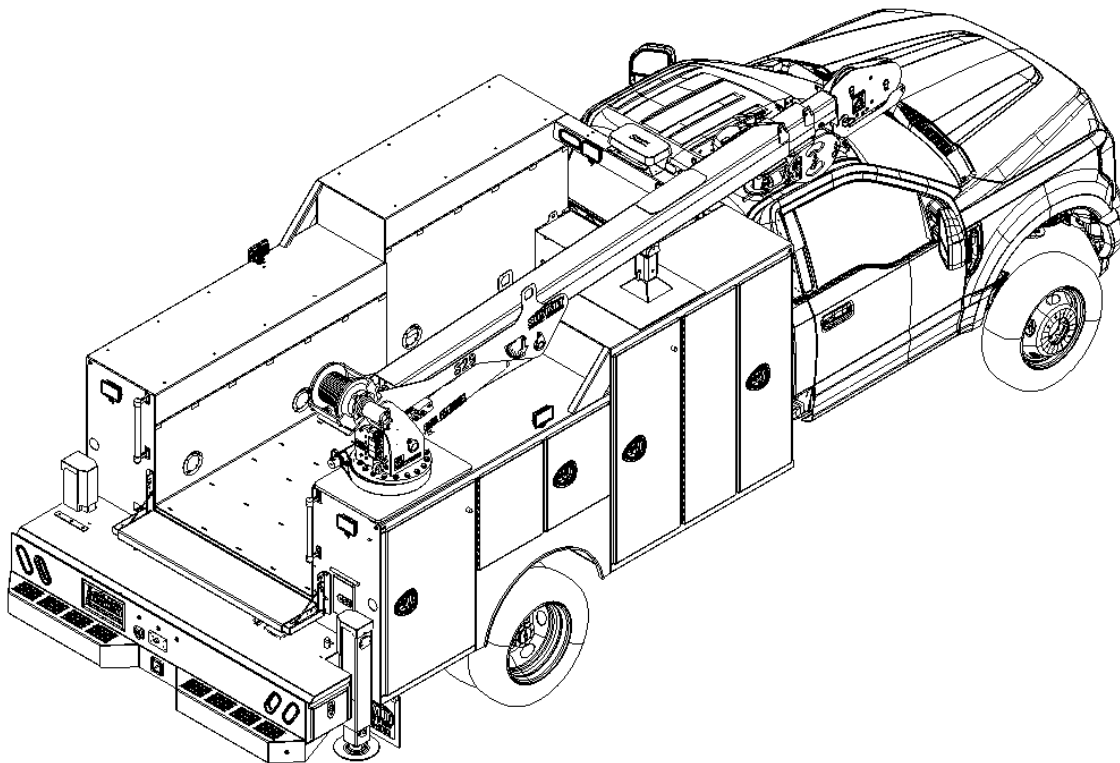

Figure 3-2.
Proper torque is critical for safe and effective performance of bolts and the crane as a whole. Figure 3-2 shows required installation torques for various sizes of non-plated Grade 5 and Grade 8 Fasteners; these bolts are black oxide finish only and are installed without lubricants. Figure 3-3 shows required adjustments to standard torque values for various bolt lubricants, coatings, and finishes. Refer to metric equivalent torque specification chart for metric fasteners.
U.S. BOLT TORQUE SPECIFICATIONS (Figure 3.2)
in Figure 3-2. Bolt torque of pedestal bolts must follow the pattern procedure as described in Section “Crane Pedestal & Rotate/Base Bolt Installation Torque Pattern”.
5. Inspect wire rope (Figure 3-2, Item 1). See Wire Rope Daily Inspection.
7. Make sure outriggers (Figure 3-2, Item 4) operate as specified.
2. Visually check structural components such as welds and fasteners for cracks, breaks, looseness, or other damage. If loose, broken, or missing bolts are found, all bolts in the affected pattern must be replaced with new fasteners of proper size, grade, and torques to factory specifications in accordance with the requirements in Figure 3-2 and 3-3. Bolt torque of pedestal bolts must follow the pattern procedure as described in Section “Crane Pedestal & Rotate/Base Bolt Installation Torque Pattern”.
3. Visually check structural components such as welds and fasteners for cracks, breaks, looseness, or other damage. If loose, broken, or missing bolts are found, all bolts in the affected pattern must be replaced with new fasteners of proper size, grade, and torques to factory specifications in accordance with the requirements in Figure 3-2 and 3-3. Bolt torque of pedestal bolts must follow the pattern procedure as described in Section “Crane Pedestal & Rotate/Base Bolt Installation Torque Pattern”.